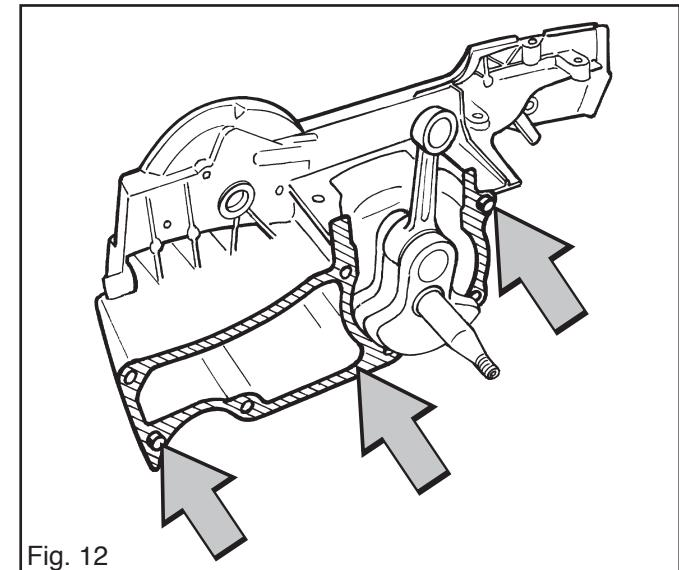

Fig. 12
- Locate the guide pegs in the clutch side crankcase half, grease and locate the gasket. See fig. 12.
- Use tool 502 50 30-14 and pull on the flywheel side crankcase half. Pull until the gasket is clamped between the two halves. See fig. 12.